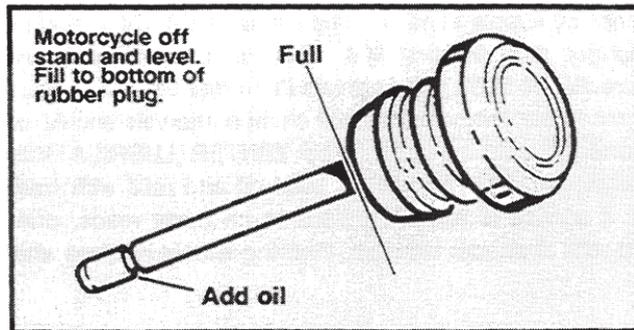
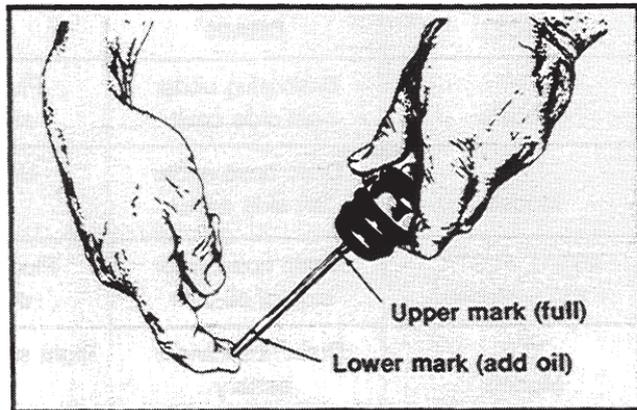

Figure 27. Engine Oil Level - Softail Models
Figure 28. Oil Level Dipstick - All Other Models
See Figure 28. Wipe off dipstick and insert into tank with plug pushed completely into filler neck. Remove and note oil level. If oil level is down to or below lower mark on dipstick add only enough oil to bring level to upper mark on dipstick. See Figure 27. For FLST/C, FXST/C and FXSTS add only to fill mark on dipstick.
2. See Figure 28. Remove screws and washers that secure clutch inspection cover.